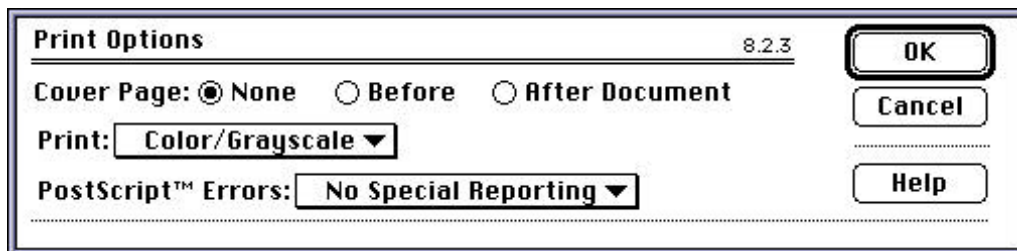

Figure 4-20 Macromedia Freehand 5.5 Print Options Window for General Settings
6. **Click on the Options button in the upper right of the Print window to change the settings shown in Figure 4-20:**